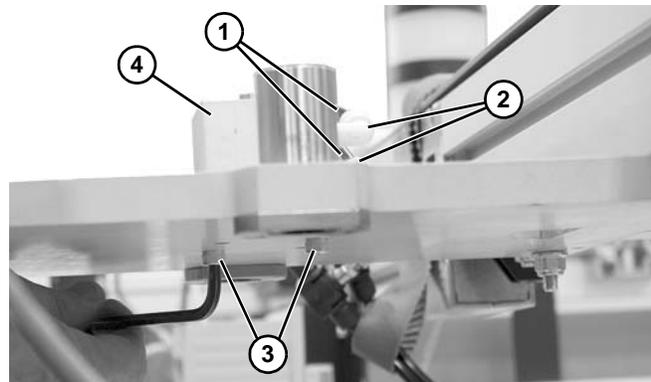

Figure 112
6. Remove tubing (Figure 112, item 1) from fittings (Figure 112, item 2).
7. Remove socket head screws (Figure 112, item 3) and lift cylinder (Figure 112, item 4).